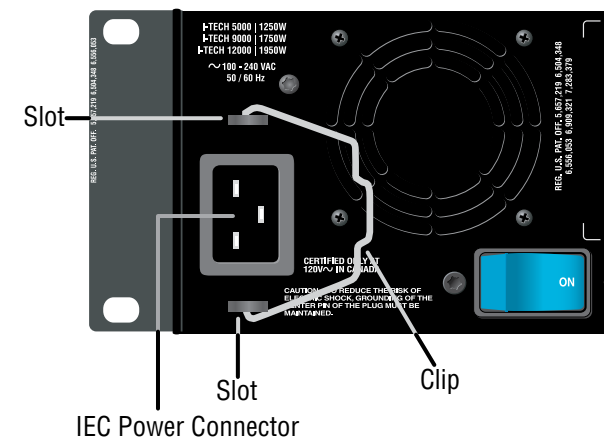

Figure 2.3 IEC Power Connector Clip
2. Locate the IEC power connector on the back of the amplifier. Above and below that connector are two slots. Stretch the ends of the clip and insert them into the slots (Figure 2.3).